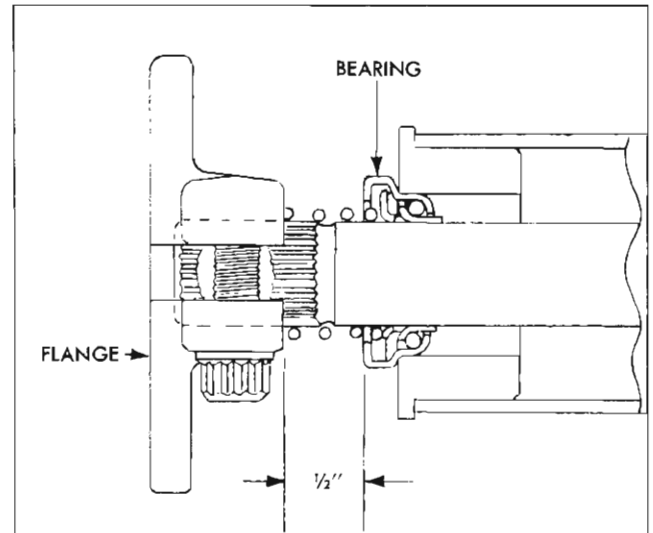

Fig. 39—Location of Lower Flange
17. Install spring and flange on lower end of steering shaft and secure with attaching bolt. Before tightening bolt, adjust lower flange to 1/2 inch gap between bottom of bearing and upper edge of flange (fig. 39). Lock flange attaching bolt and torque to 25-35 ft. lbs.